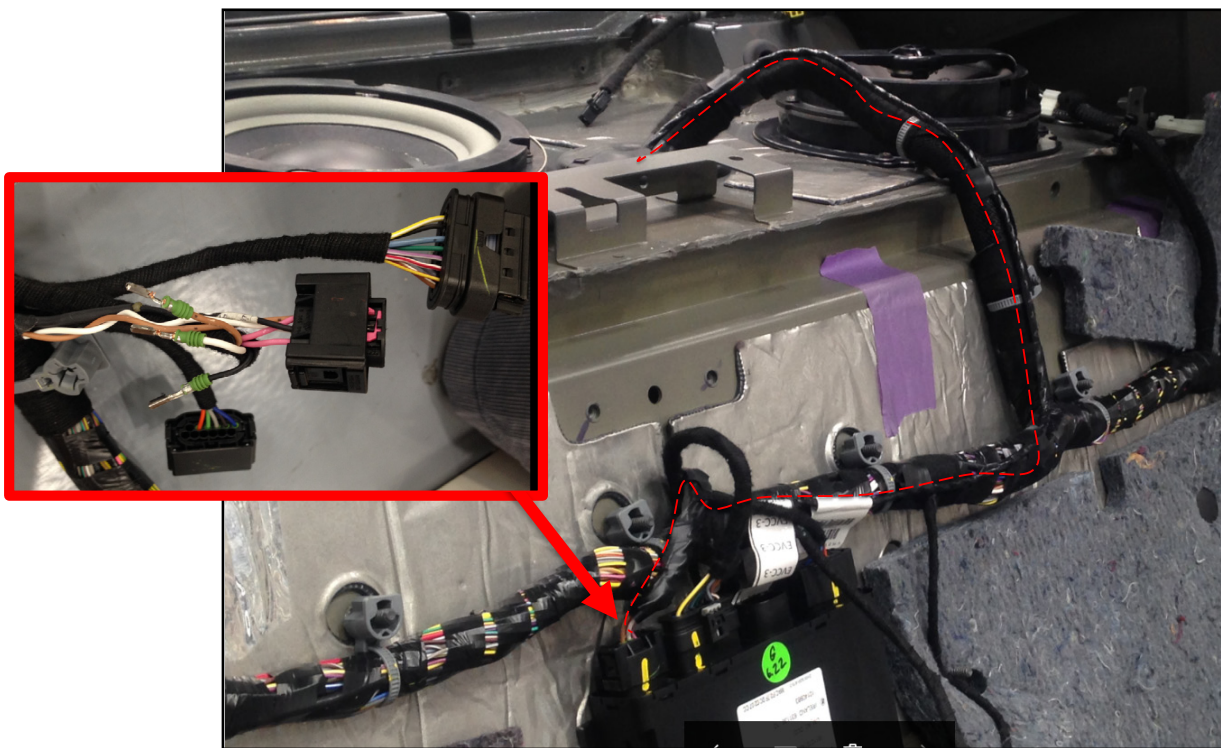
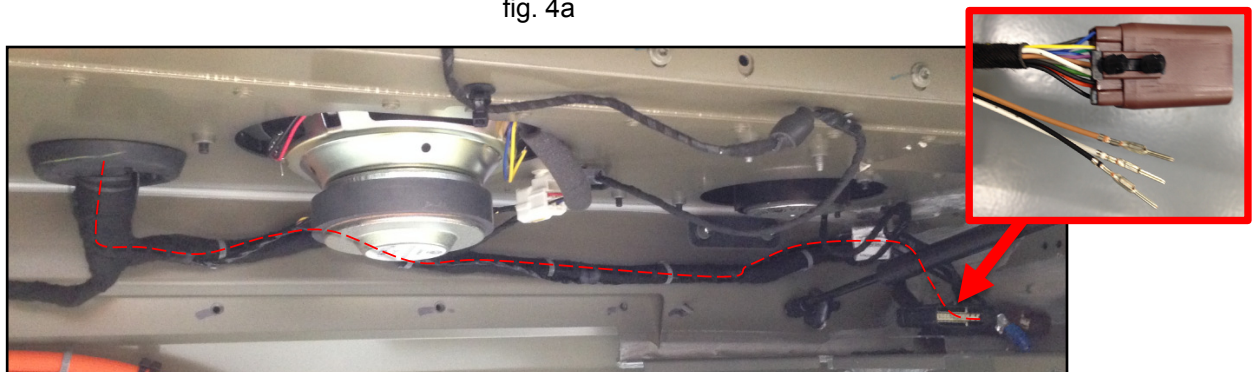

fig. 4a
fig. 4b
- The overlay harness will run as shown (fig.4a) and through the trunk (fig.4b)